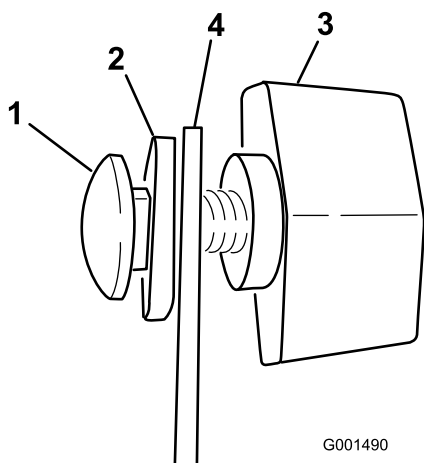

Figure 6
3. Loosely install the 2 carriage bolts, rubber washers, and knobs on the bracket as illustrated in Figure Figure 5 and Figure 6.